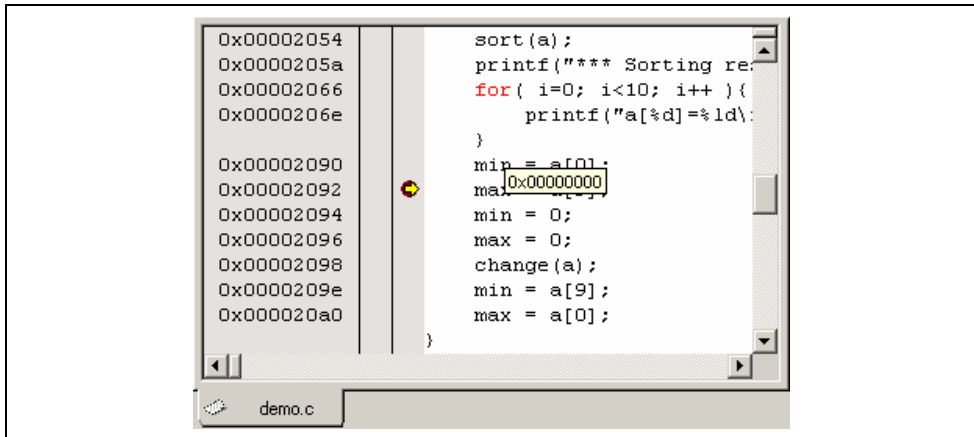

Figure 4.18: Viewing a tooltip watch
1. Display the source file containing the variable that you want to examine on the Editor window (figure 4.18).